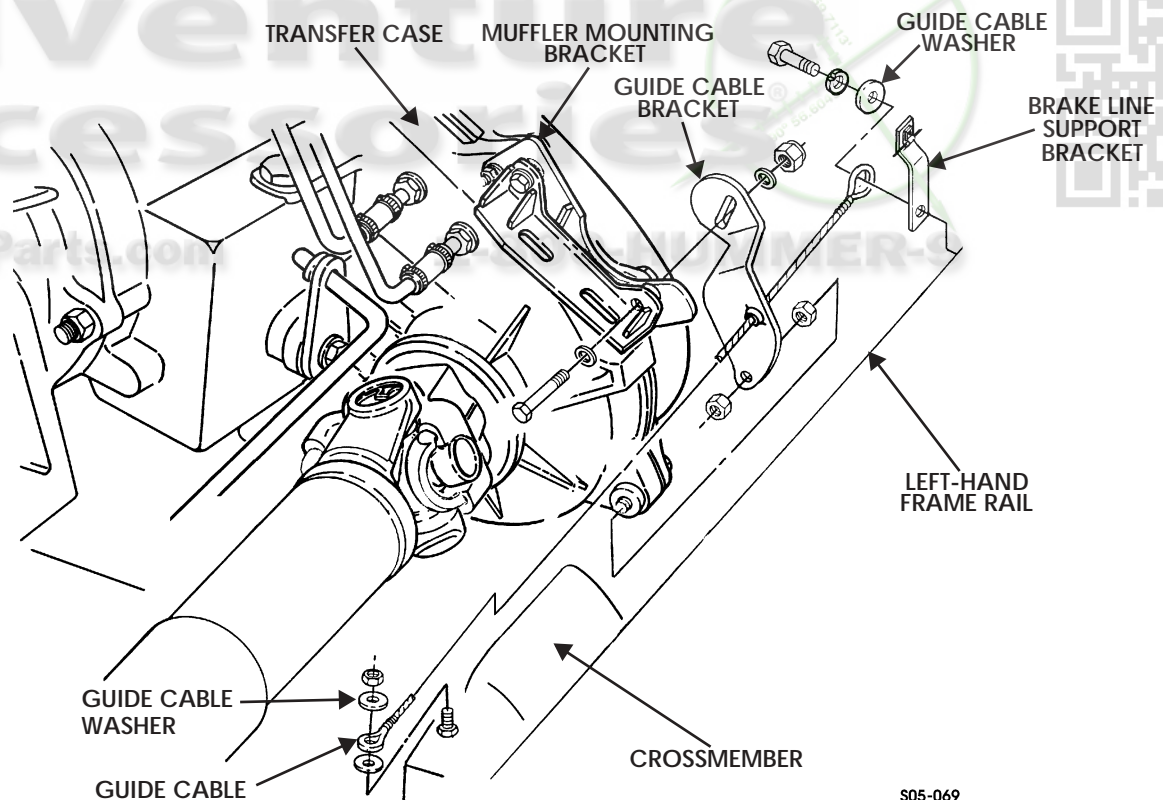

Figure 5-116: Transfer Case Guide Cable
1. Remove nut, washer, screw, and spacer from muffler mounting bracket and guide cable bracket (Figure 5-116).
1. Install guide cable bracket on muffler mounting bracket with screw, spacer, washer, and nut (Figure 5-116).